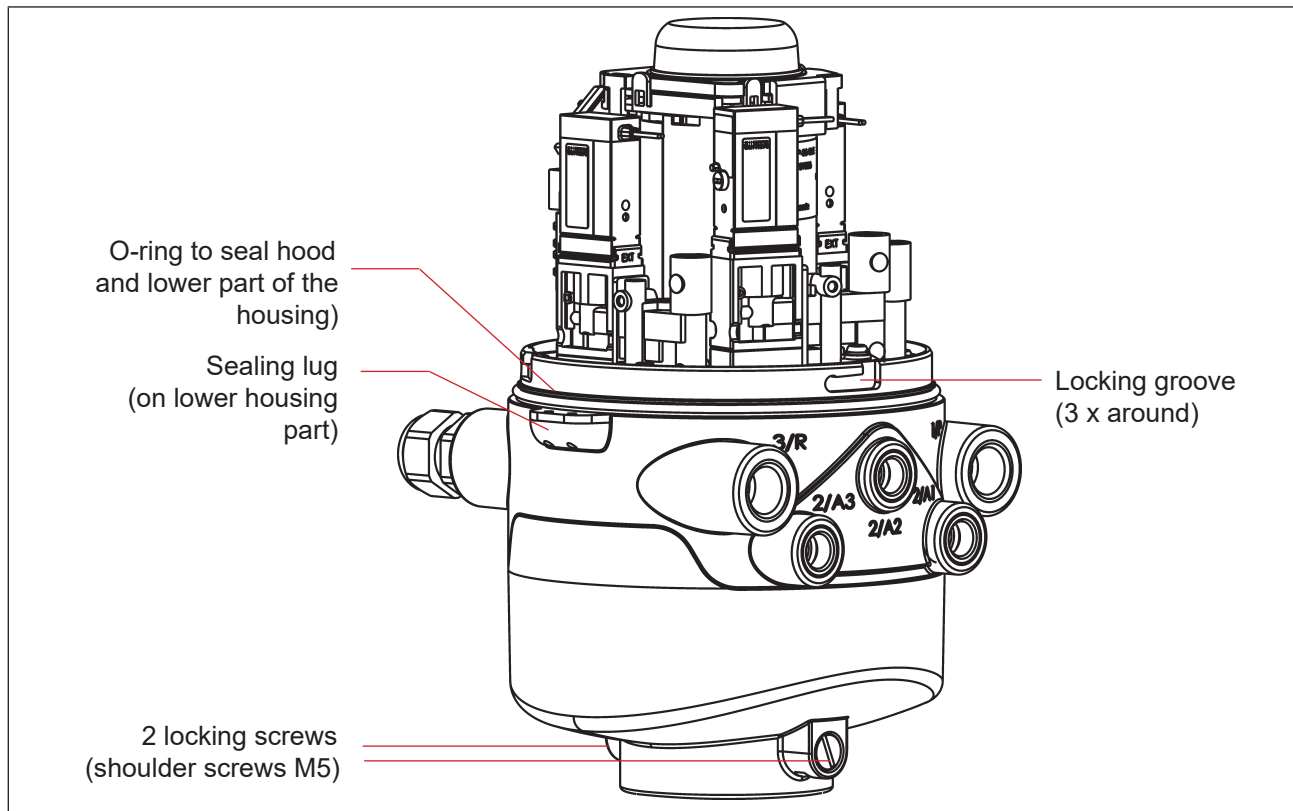

Fig. 15: Sealing and locking the housing
- Remove lead seal if the housing is secured at the sealing lug – see “Fig. 15”.
- Put the plastic hood on the lower part such that the inner "lugs" of the hood are positioned over the locking grooves and the external sealing lugs are positioned almost over each other. Press the hood completely over the O-ring of the lower part – see also "Fig. 15".